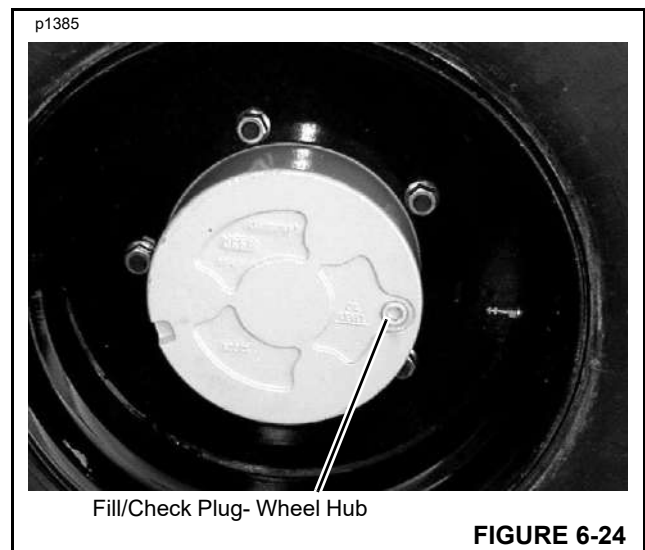

FIGURE 6-24
3. Turn one of the wheel hubs until the fill/check plug is horizontal with the ground (Figure 6-24).